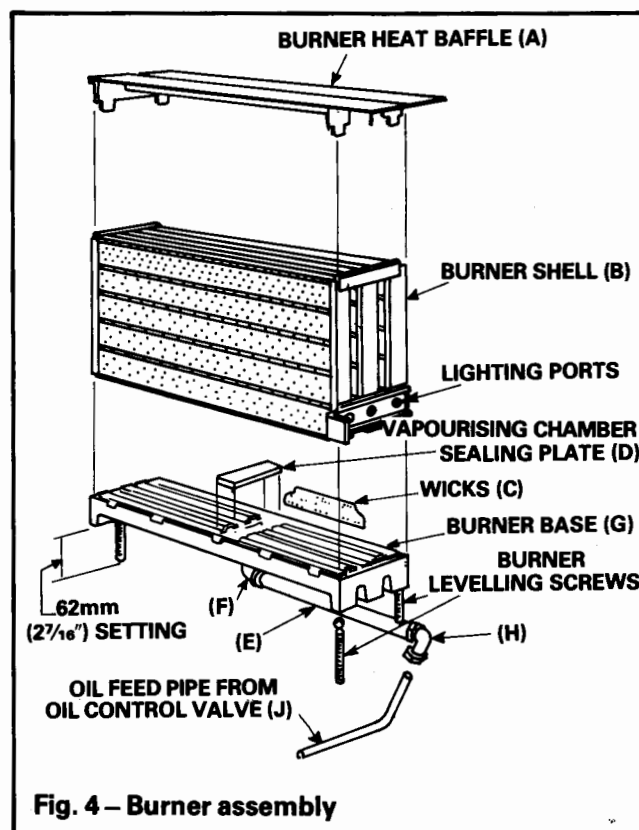

Fig. 4 – Burner assembly
- Carefully lift complete oil burner assembly (See Fig. 4) out of combustion chamber, and stand on servicing surface.
3. a. To Clean Cooker Burner – See Fig. 4